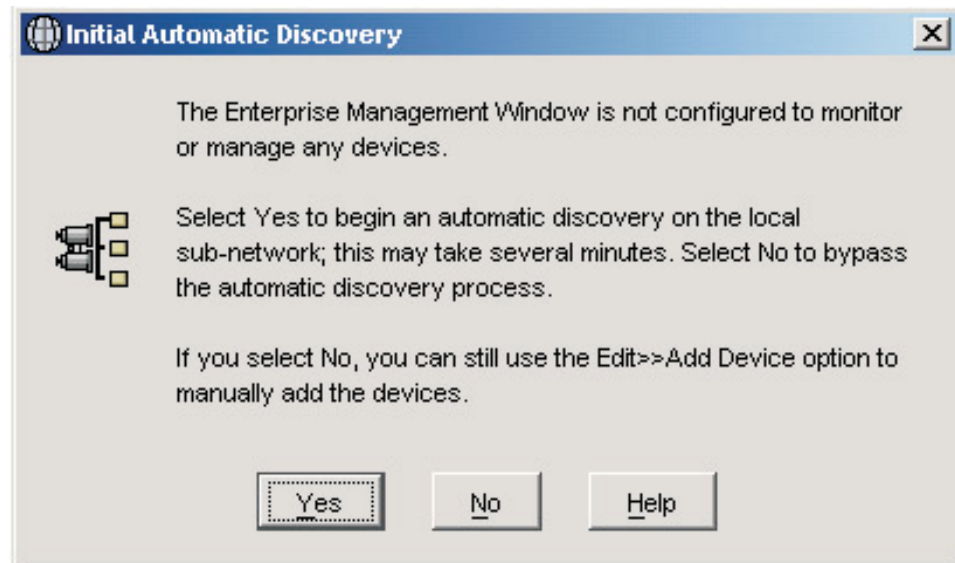

Figure 22. Confirm Initial Automatic Discovery window
2. Click **IBM DS4000 Storage Manager 9 Client**. The client software starts and displays the Enterprise Management window and the Confirm Initial Automatic Discovery window as illustrated in Figure 22.